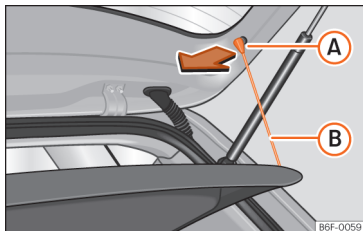

Fig. 173 In the boot: removing and installing the shelf.
- Detach the cord loops >>> Fig. 173 **B** from their hooks **A**.
- Attach the securing straps >>> Fig. 173 **B** onto the rear lid.